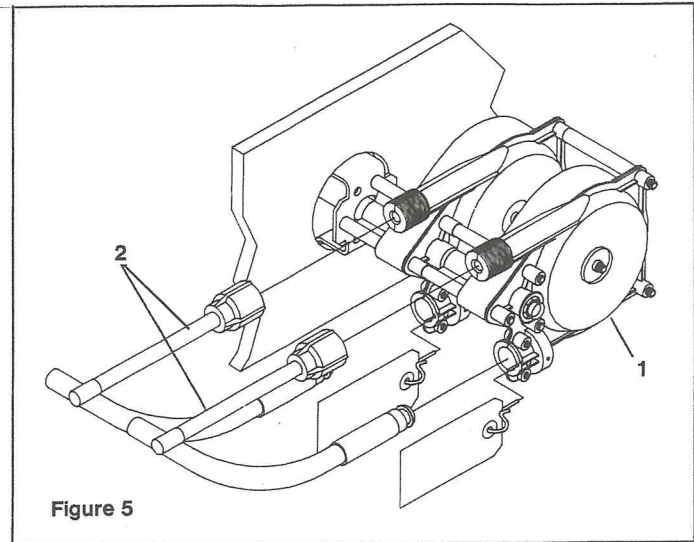

Figure 5
STEP 3. Feed the cable ends into the **LOWER** helm entry spigots, keeping the conduit fittings aligned, until they contact the internal gears. Then turn the steering wheel to draw the cables fully into the helm (see Figure 5). Continue turning wheel until end fittings of cables are entered into the entry spigots, and wheel cannot be turned further. During this you may hear a click as the locking mechanism engages. Turn steering wheel fully in the other direction until it cannot be turned any further, check that cable end fittings are retained inside the entry spigot.